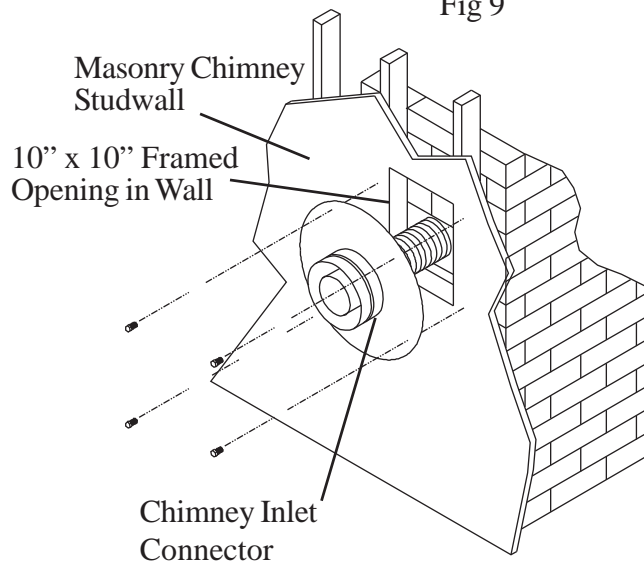

Fig 11
2. Once the center point of penetration has been determined, cut a 6-inch diameter hole in the masonry. Be careful, if the hole is too large, the Chimney Inlet Connector might not mount properly, and if the hole is too small, then the appliance might starve for intake air. If there is a frame wall in front of the masonry wall, cut and frame a 10" clear square opening in wall (centered around the 6" masonry opening). If there is sheet rock only (no studs) in front of the masonry, the 10" clear opening is still needed, but does not need to be framed. This allows the Chimney Inlet Connector to mount directly on the masonry and provide clearance to the combustibles. Refer to Figure 11.
9. Slide Chimney Inlet Connector against the masonry wall and secure with masonry bolts. Re-drill larger holes on connector as needed. Be careful to insure that the connector is centered in the opening and the mounting holes line up with the masonry wall. If you have a framed wall in front of the masonry, use wood screws to mount the Connector to the framed wall, shown in Figure 11. If needed, add a section of direct vent pipe to the Connector in order to extend through the opening.